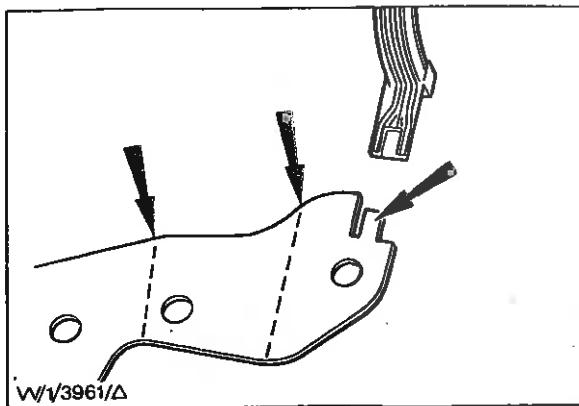

Fig. 69 - Oil Pan Front Seal and Gasket Installation -
72. Apply a small bead of specified sealer to the flange joint lines of the front housing and to the rear of the block oil pan rail as shown in Fig. 69 and 70.
73. Position the front and rear seals and gaskets to the block flange, ensuring correct interlocking of cut-outs and tongues - see Figs. 69 and 70.